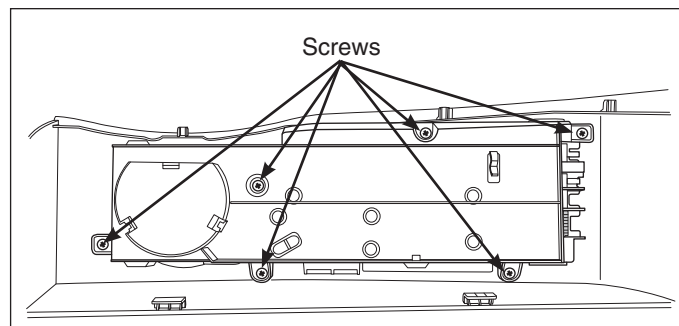

Figure 4-17.
5. Using a #2 square bit screwdriver, extract the six screws securing the control assembly to the console panel. Carefully lift the control assembly from the console panel. (See Figure 4-17)